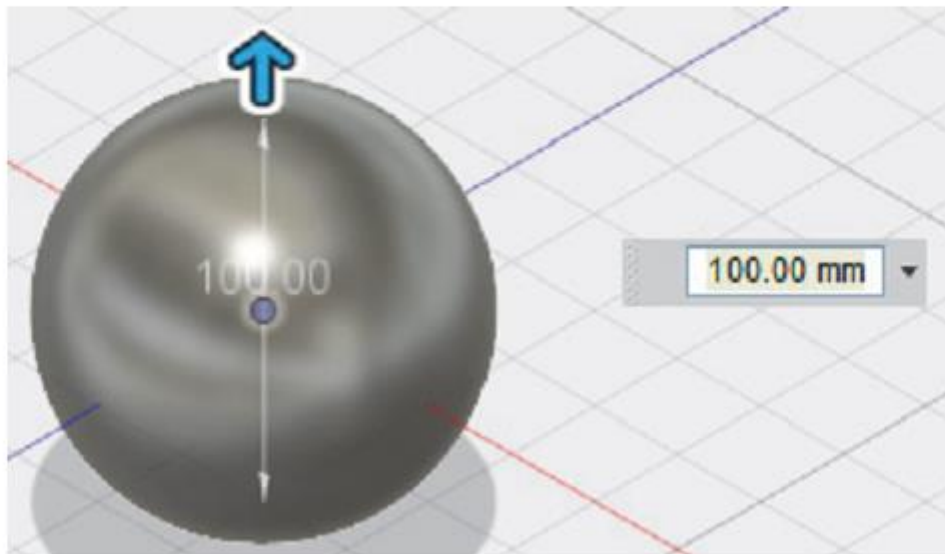

Figure 2–11
13. Unlike the **Box** and **Cylinder** tools, the **Sphere** tool does not start with a sketch. Instead, as soon as you select the center point, a 3D sphere is immediately added, similar to that shown in Figure 2–11. One arrow displays surrounding the shape and the SPHERE palette opens.